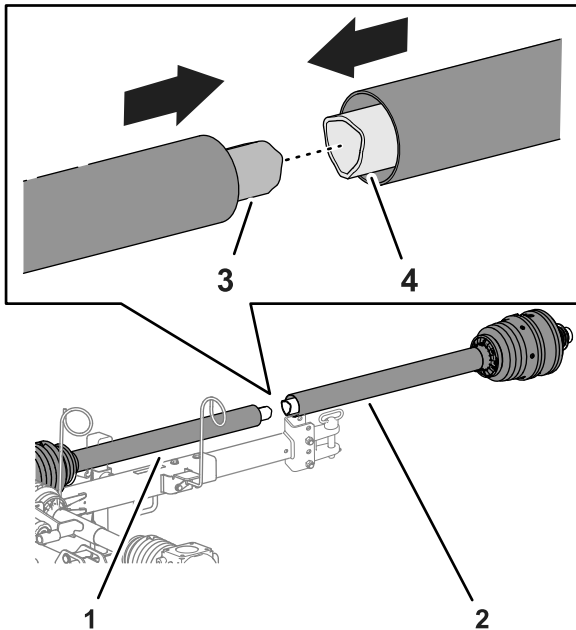

Figure 8
- Align the inner tube of the rear PTO-driveshaft half with the outer tube of the forward PTO-driveshaft half, and slip the tubes together (Figure 8).